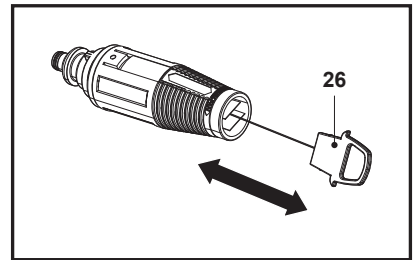

Fig. 22
2. Remove any dirt deposits from the nozzle hole using a needle (26) (Fig. 22).